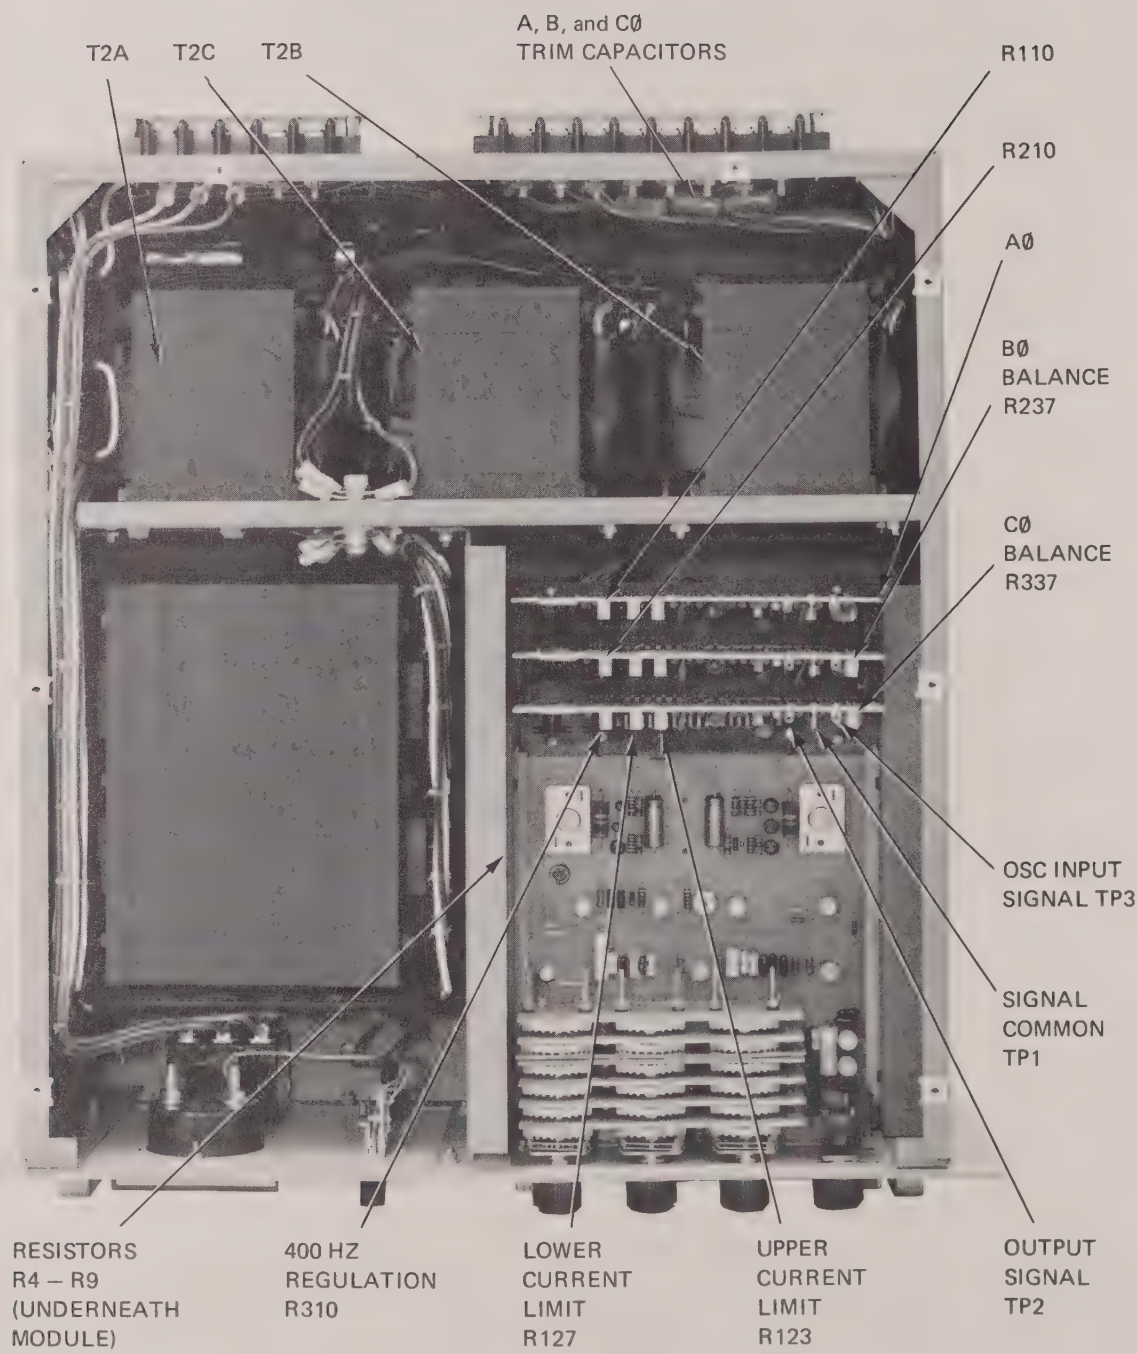

Figure 5-2. Model 1753A Top View
angle control is used to set A-B voltage and the C-phase angle control to set the A-C voltage. To check the output and amplitude balance and adjust as needed (see Figure 5-2), proceed as follows:
5-20 ADJUSTMENTS. The AC Power Source is delivered fully adjusted and calibrated; therefore, adjustment is not normally required unless a malfunction occurs or parts are replaced. Adjustments should not be attempted unless indicated by troubleshooting. The A, B, and C phase amplifiers are nearly identical (the A phase amplifier has its amplitude control R1 located on the unit front panel. The amplitude balance potentiometers R237 and R337 are located on their respective B and C phase amplifier circuit boards); therefore, current limit adjustments are performed in the same manner. See Figure 5-2.
7. To remove clipping from upper peak of sine wave, adjust the upper current limit potentiometer R123 (see Figure 5-2) CCW only as much as necessary to remove clipping. Further adjustment CCW will permit the output transistors to deliver an unsafe amount of current.